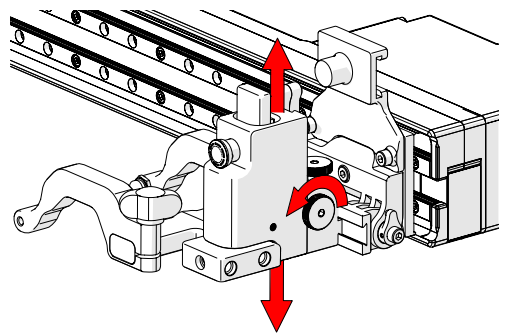

Fig. 89 - Vertical adjustment
2. The vertical adjustment knob (*Fig. 89*) allows the heavy duty vertical probe holder's height adjustment. This adjustment also controls the probe holder's spring tension.